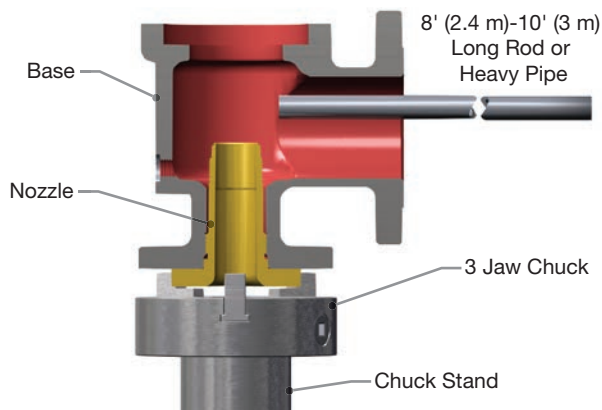

Figure 19: Loosening the Nozzle from the Base
- 18. Using a three- or four-jaw chuck welded vertically to a stand bolted to a concrete floor, clamp the nozzle (2) into the chuck and break the body loose with a heavy rod or pipe (see Figure 19).